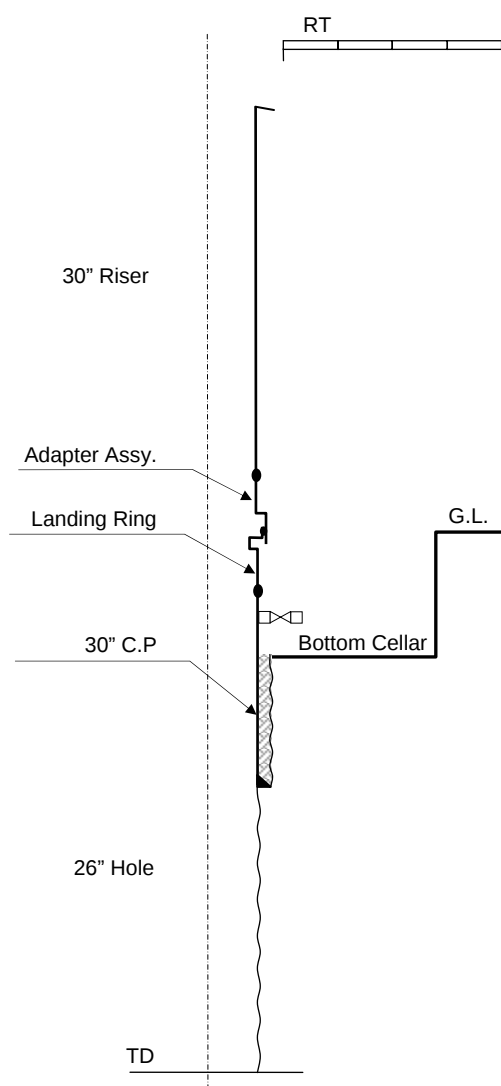

Figure 2-15: Drilling 26" Hole through 30" Riser
- 26" hole will be drilled through 30" OD mud riser or 29.1/2" - 500 psi diverter, Figure 2-15 and Figure 2-16.